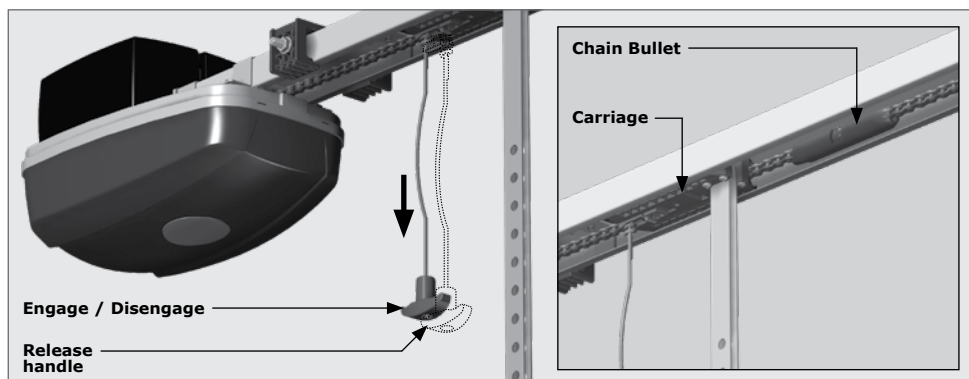

FIGURE 76
- TO ENGAGE - Pull the release handle back towards the control head until you hear a 'click', and move the carriage until it engages with the chain bullet (Figure 76)